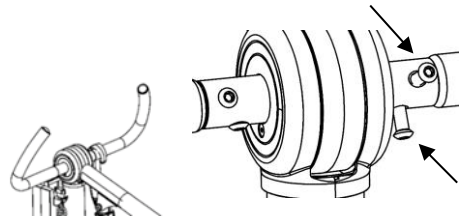

Fig. 1.6F
5. Assembly the handles on the mast with two screws and tighten with the Allen key. (Fig 1.6F).